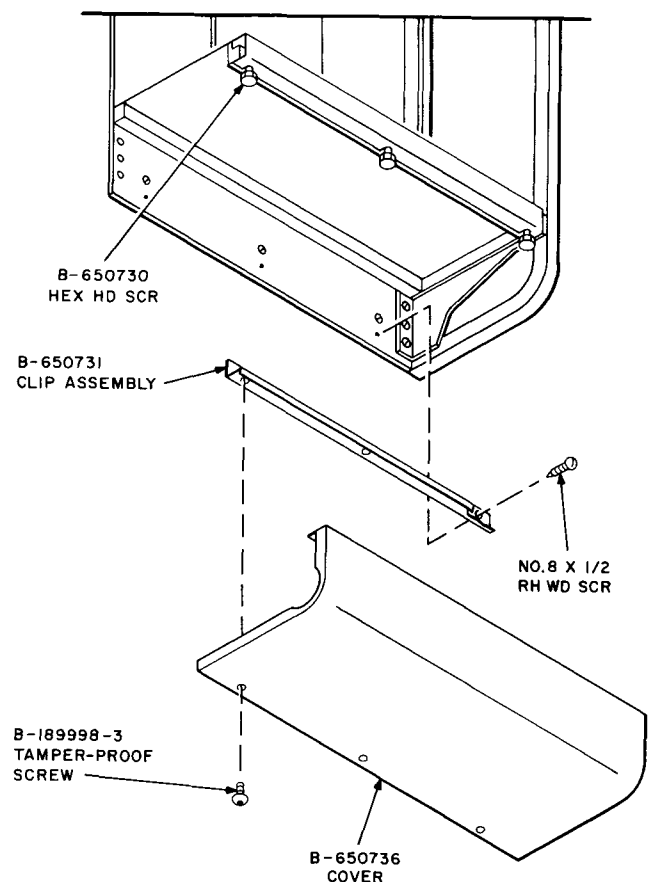

Fig. 7 — Installation of KS-19267 List 13 Cover Assembly
- 3.19** If KS-19267, List 13 cover assembly is required, install as shown in Fig. 7.
- (b) If KS-19267, List 13 cover assembly is present, remove per Fig. 7.